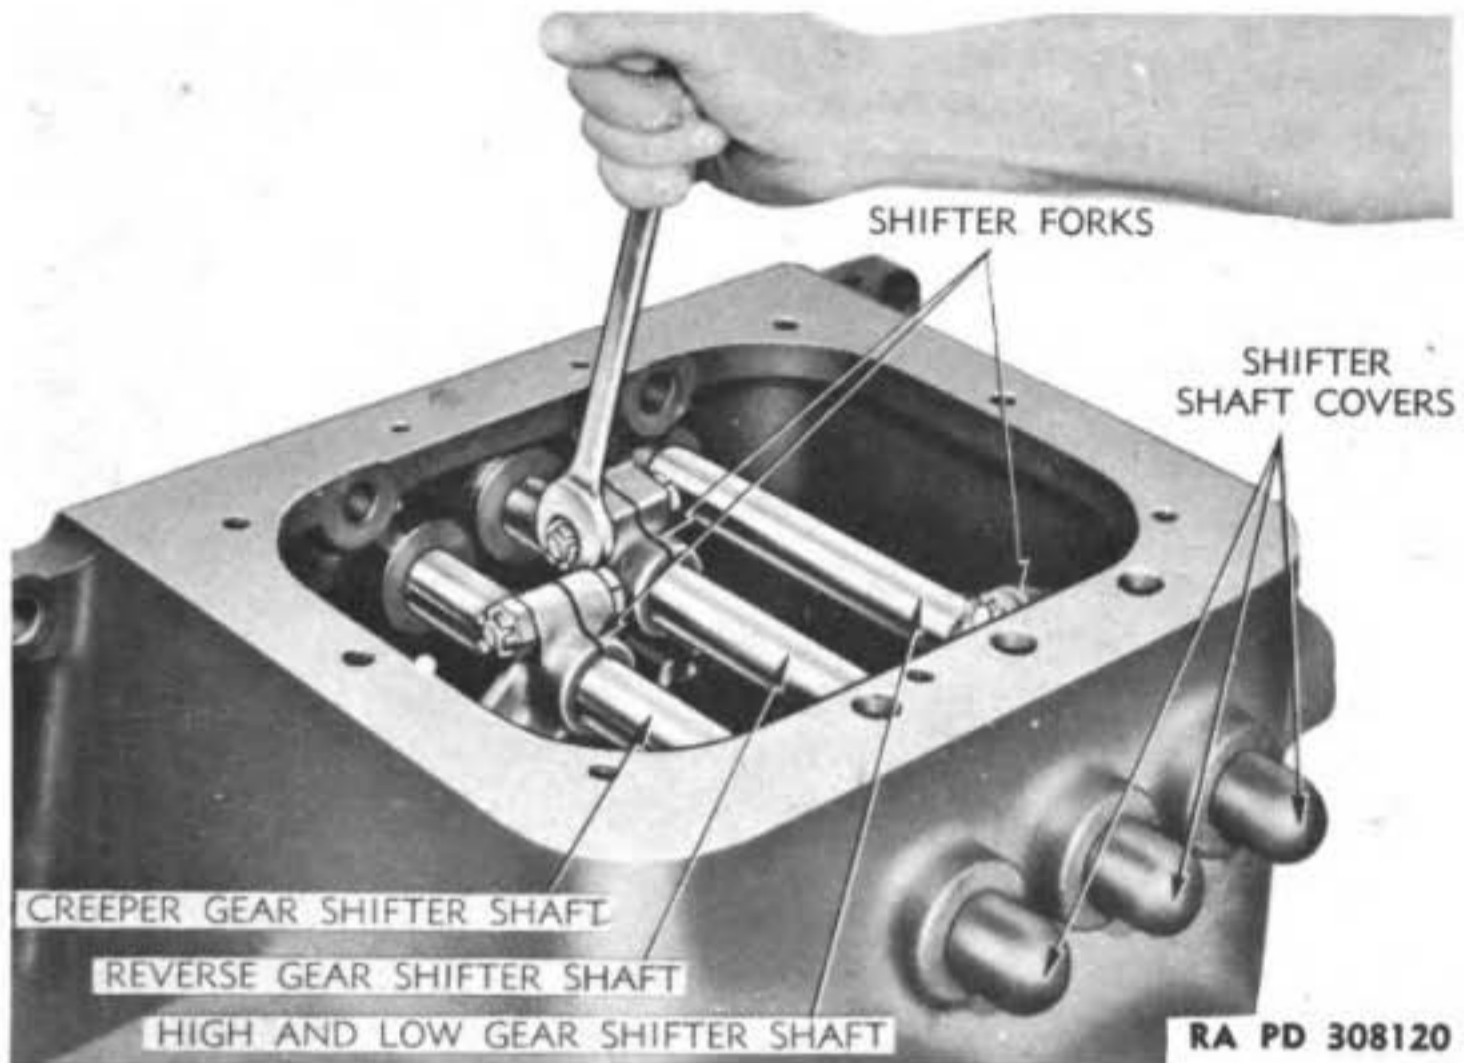

Figure 20 – Loosening Shifter Fork Clamp Bolts
a. Remove Shifter Shafts and Forks (fig. 20). Pull cotter pins and loosen nuts on shifter fork clamp bolts. Drive shifter shafts towards rear of case. This will push shifter covers out of case. Then slide shafts out of forks and case and remove forks. Remove the shifter shaft interlocking plungers and springs in lateral passages in front end of case (fig. 63).